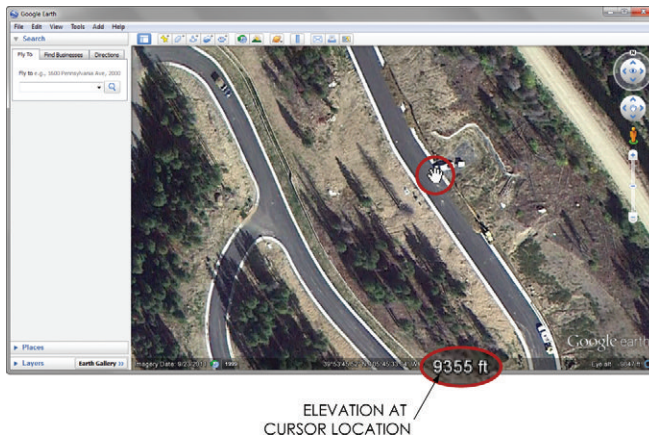
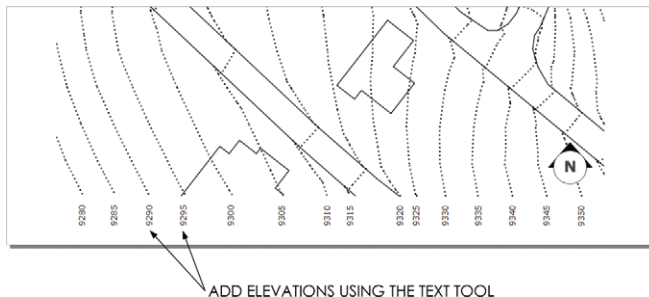

Figure 15.40 Use Google Earth to find topographic elevations.
Figure 15.41 Use the Text tool to add elevations to the topography lines.
7. Use the Text tool to assign elevations to the topography lines. Find accurate elevations by hovering your cursor over points in Google Earth. You can quickly access the site in Google Earth by clicking on the File drop-down menu in SketchUp and choosing Preview in Google Earth (Figure 15.40, Figure 15.41).